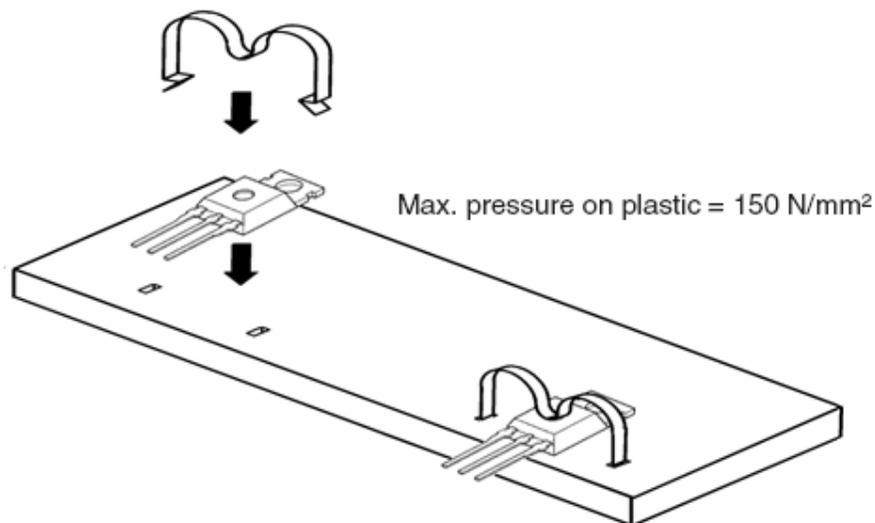

Figure 3: Example of clip mounting (saddle-clip)
- For heatsinks less than 5 mm in thickness saddle clips should be used (see Fig. 3). These provide contact forces between 15 N and 50 N according to their specification.